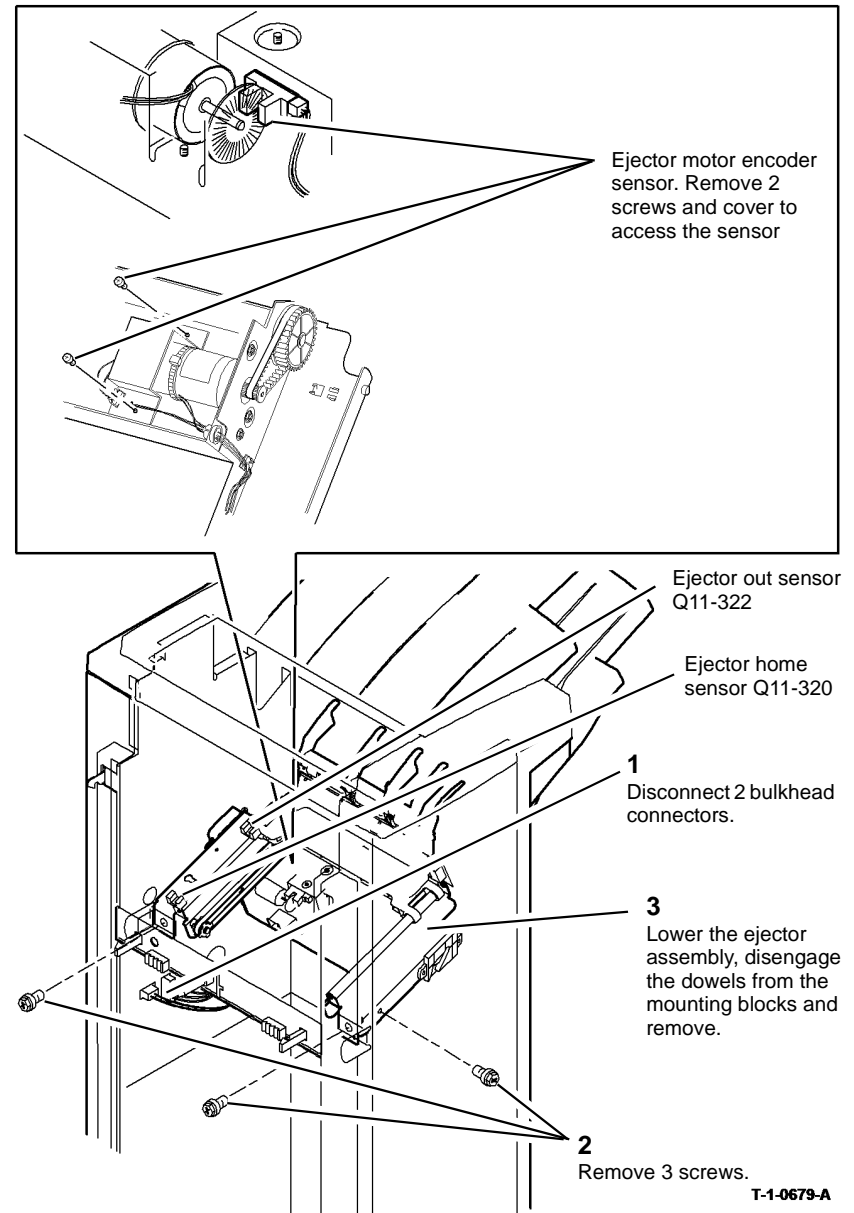

Figure 1 Removing the ejector assembly
5. Remove the ejector assembly, Figure 1.